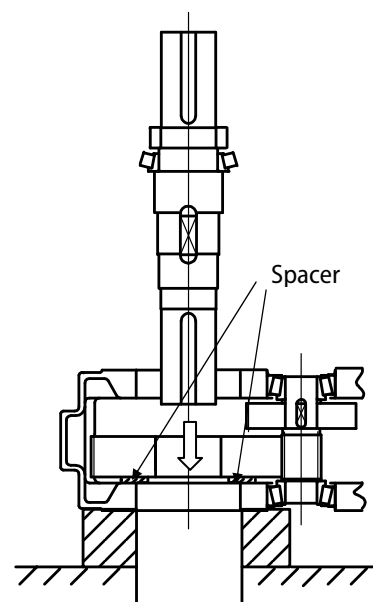

Fig. A-7 Insert of Shaft
- Carefully position the gear in the housing and set spacer block between the inside housing wall and the gear. (See Fig. A-7)
- Place the shaft into the gear bore through the housing bore and use press to fit the gear onto the shaft up to the shaft shoulder. (See Fig. A-7)